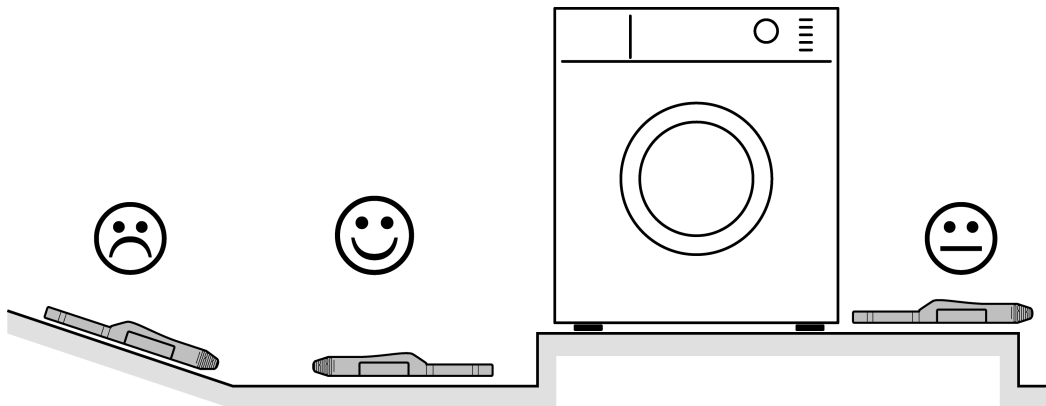

Figure 3: Appropriate and inappropriate locations for fitting
- i** Do not place the device on sloping surfaces, ridges or pedestals (figure 3).